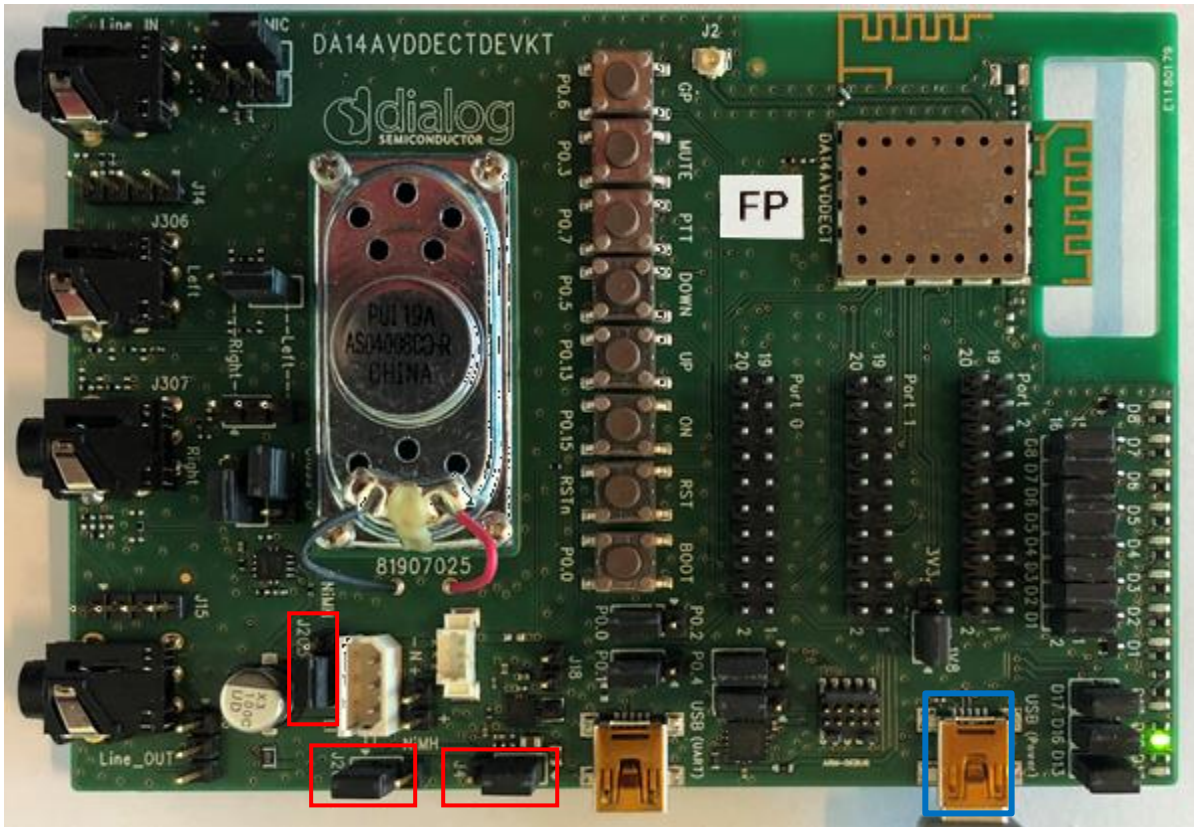

Figure 3: Board Power On
Default jumper settings are marked by white rectangles on the PCB and jumper settings are the same for J203, J201, and J4 (Figure 3) when the board is powered from USB or Li-Ion battery. The carrier boards are shipped with the default jumper settings.
To power the carrier boards via USB, connect your PC to the miniUSB connector named "USB" on the carrier boards (marked blue in Figure 3). Use the default jumper settings for J203, J201, and J4 (marked with red on Figure 3 and also Figure 4 for zoomed image).
1. Power up the fixed part (FP) carrier board either via miniUSB cable or from a battery. When power is supplied, the LEDs on the FP should light up, D5 red and D16 green, as shown in Figure 3. Power up the PP in the same way.